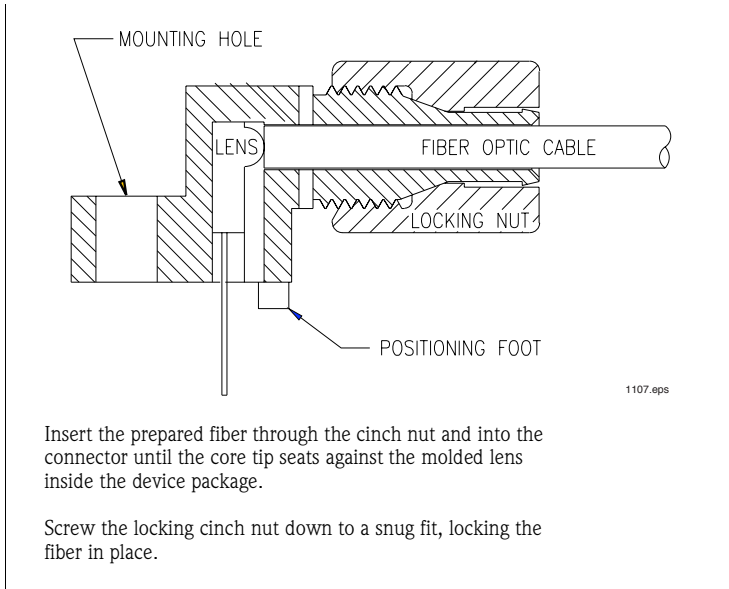

Figure 3. Cross-section of fiber optic LED and cable.
- A13.** *Locate the individual fiber on the duplex fiber pair that has small blue dots on its jacket. Insert one end of this fiber into **D2** on the transmitter portion of one printed wiring board and the other end into **Q1** of the other printed wiring board, following the steps in **Figure 3**.*
- A14.** *Identify the optic fiber at the unconnected end of the duplex optical fiber with the red light coming out of it. Insert this fiber into the Phototransistor at the other receiver using the instructions in **Figure 3**. Insert the remaining unconnected fiber into the other fiber optic LED.*